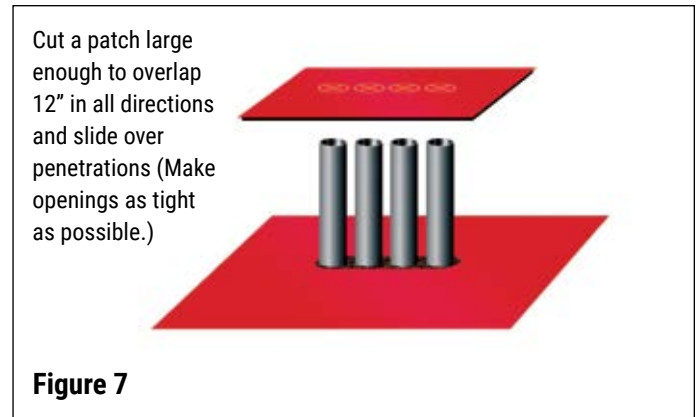

Figure 7
- A) Cut a patch large enough to overlap 12" in all directions (Fig. 7) of penetrations.